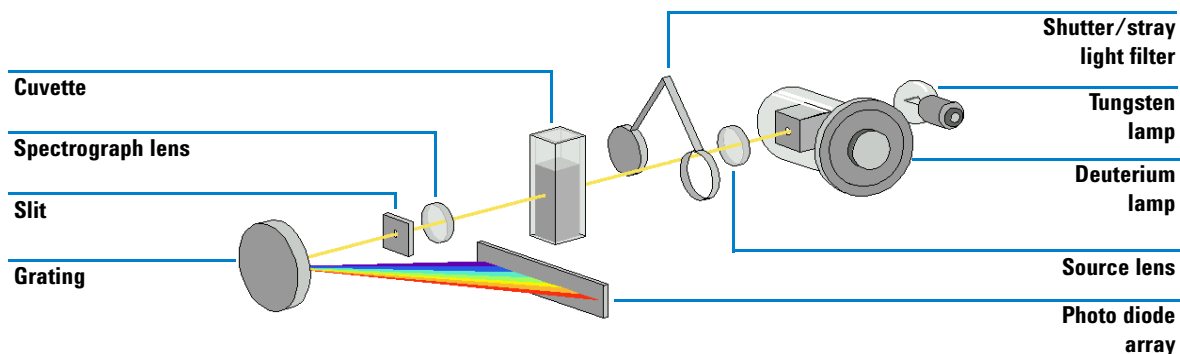

Figure 1 Optical system of spectrophotometer
The optical system of the spectrophotometer is shown in Figure 1. Its radiation source is a combination of a deuterium-discharge lamp for the ultraviolet (UV) wavelength range, and a tungsten lamp for the visible and short wave near-infrared (SWNIR) wavelength range. The image of the filament of the tungsten lamp is focused on the discharge aperture of the deuterium lamp by means of a special rear-access lamp design which allows both light sources to be optically combined and to share a common axis to the source lens. The source lens forms a single, collimated beam of light. The beam passes through the shutter/stray-light correction filter area then through the sample to the spectrograph lens and slit. In the spectrograph, light is dispersed onto the diode array by a holographic grating. This allows simultaneous access to all wavelength information. The result is a fundamental increase in the rate at which spectra can be acquired.